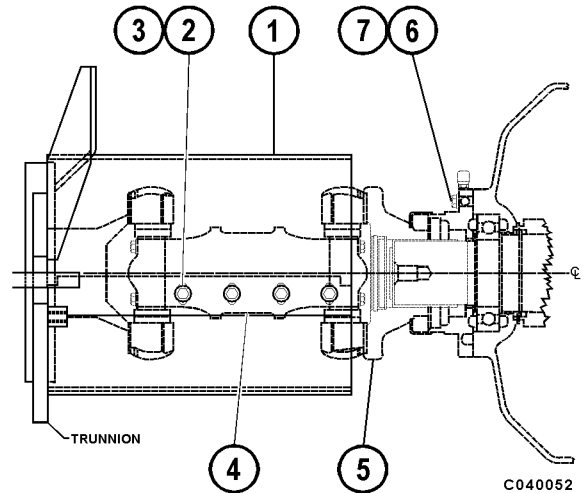

FIGURE 4-1. DRIVELINE REMOVAL
4. Remove upper half of driveline protector. Refer to Figure 4-1.
5. Remove capscrews (6) securing coupling to cover.